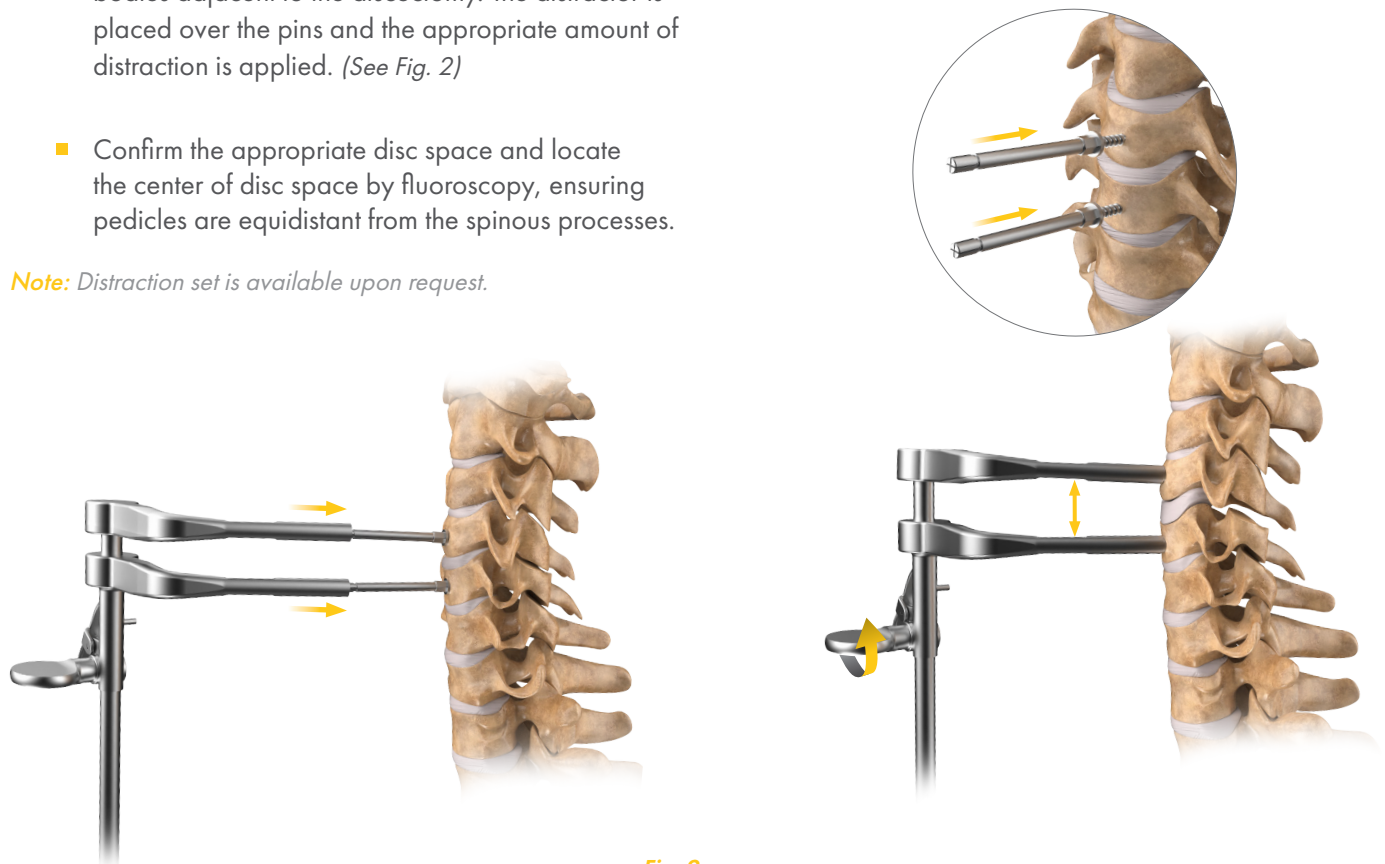

Fig. 2
- A vertebral body distractor may be used. The distraction pins are positioned midline in the vertebral bodies adjacent to the discectomy. The distractor is placed over the pins and the appropriate amount of distraction is applied. (See Fig. 2)